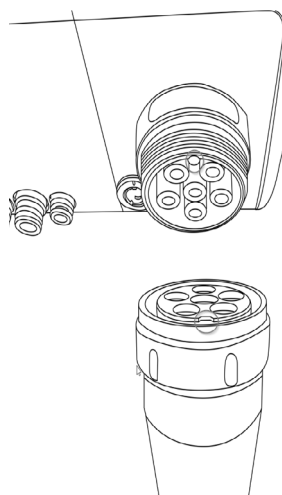
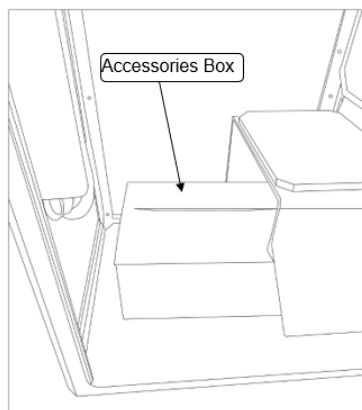

Figure 8: Alignment key shown on Bulkhead Connector
Figure 10: Accessories Box
5. Fit the supplied height adjustable feet x4 (19) to the underside of the device.
9. Remove Patient Valve Control Arm from the Accessories Box (Figure 10) which is located under the seat inside the unit and attach the Patient Valve Control Arm (24) to the Patient Valve Control Arm Holder (25) using the supplied attachment on the Patient Valve Control Arm (24). Four M5 screws are used to secure the arm in place.
15. Connect the Patient Valve to the underside of the Internal Enclosure (2) by attaching the Bulkhead Connector to item 30 (figure 1) and place the handheld part of the Patient Valve in the Patient Valve holder (23). As in Figure 8, ensure that Bulkhead Connector alignment key is aligned correctly to the connector on the underside of the Internal Enclosure (2). The Bulkhead Connector must be screwed on fully to ensure a leak-tight fit.
18. Connect one end of the Tubing Umbilical and the Heater Plug which is supplied in the Accessories box (figure 10) in the VitaloQUB to the underside of the External Control Module (10) to items 32 and 33 (figure 1) and connect the other end of the Tubing umbilical and Heater Plug to the back of the paired device taking note of the instructions in figure 8 and figure 9.